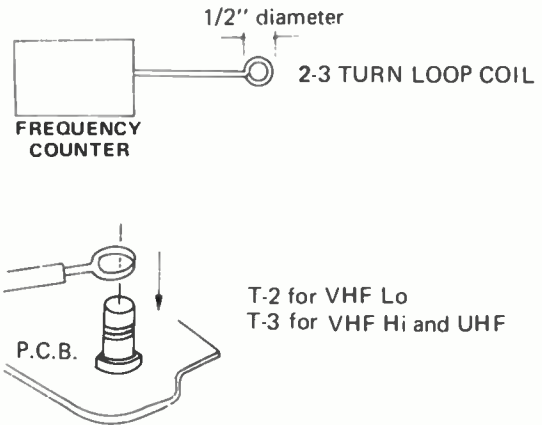

FIGURE 10. LOCAL OSCILLATOR COUPLING
Step 2: Couple the frequency counter thru a pickup coil to oscillator coil. Refer to Figure 10.